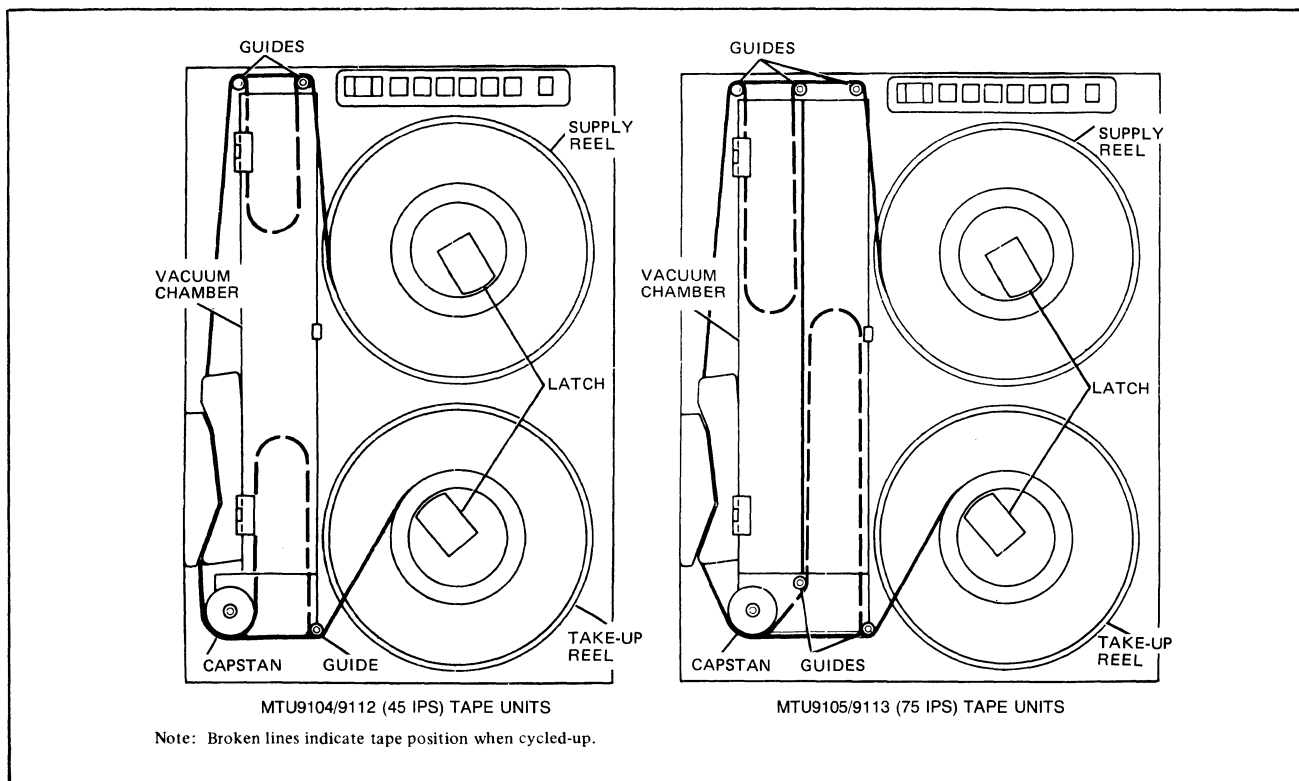

Figure 4-1. Tape Threading Diagram
2. Thread and feed the tape over the upper roller guides, through the tape head area, and under the capstan and lower roller guide directly over to the take-in reel; see the tape threading diagram located on the inside cover of the handler door and Figure 4-1.